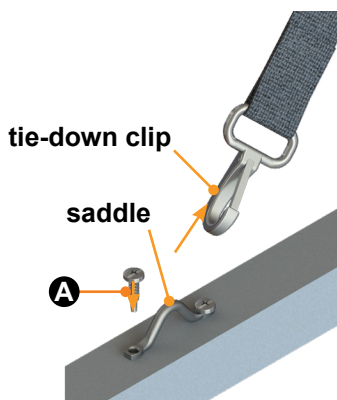

Fig.19
D. Separate the loose saddles from the tie-down clips (Fig.19).